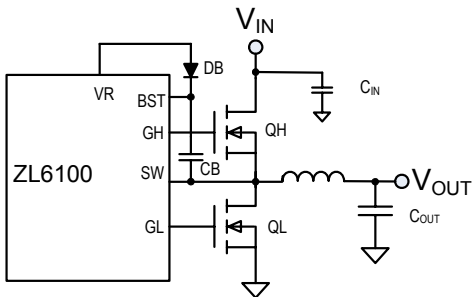

FIGURE 4. SYNCHRONOUS BUCK CONVERTER
Figure 4 illustrates the basic synchronous buck converter topology showing the primary power train components. This converter is also called a step-down converter, as the output voltage must always be lower than the input voltage. In its most simple configuration, the ZL6100 requires two external N-channel power MOSFETs, one for the top control MOSFET (QH) and one for the bottom synchronous MOSFET (QL). The amount of time that QH is on as a fraction of the total switching period is known as the duty cycle  $D$ , which is described by Equation 1:
Typically, buck converters specify a maximum duty cycle that effectively limits the maximum output voltage that can be realized for a given input voltage. This duty cycle limit ensures that the lowside MOSFET is allowed to turn on for a minimum amount of time during each switching cycle, which enables the bootstrap capacitor (CB in Figure 4) to be charged up and provide adequate gate drive voltage for the
The gate drive voltage for the high-side MOSFET driver is generated by a floating bootstrap capacitor, CB (see Figure 4). When the lower MOSFET (QL) is turned on, the SW node is pulled to ground and the capacitor is charged from the internal VR bias regulator through diode DB. When QL turns off and the upper MOSFET (QH) turns on, the SW node is pulled up to VDD and the voltage on the bootstrap capacitor is boosted approximately 5V above VDD to provide the necessary voltage to power the high-side driver. A Schottky diode should be used for DB to help maximize the high-side drive supply voltage.